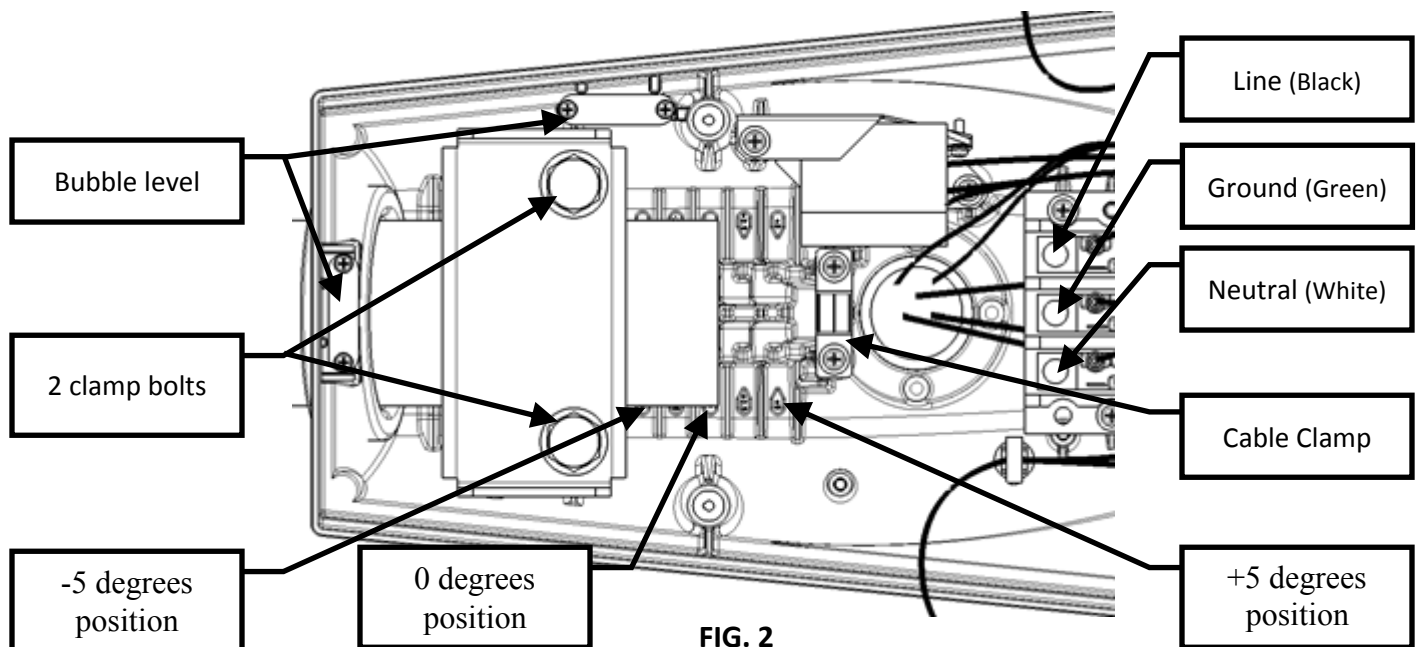

FIG. 2
3. Using an 11/16 inch socket head wrench, **LOOSEN** the two (2) clamp bolts allowing enough clearance to **INSERT** mounting arm.
4. Slide the luminaire onto the mounting arm to initial pre-wiring position (step feature) (**Fig. 2**).